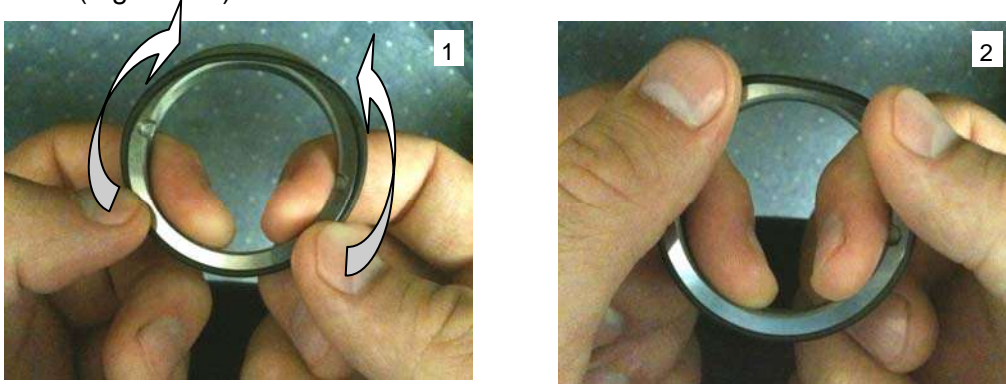

Figure 29: Installing the Rotating O-ring
3) Next install the rotating o-ring onto the rotating seal by stretching it (not rolling) onto the rotating seal (Figure 29).